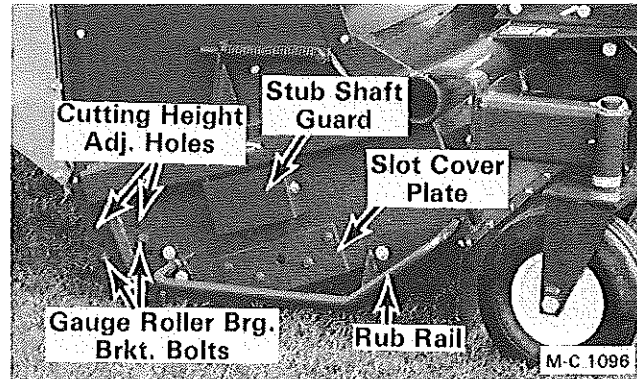

Figure 9
1. Install the right and left rub rails to the sides of the Model LG72B Lawn Genie body with  $\frac{3}{8}$ -16 x  $\frac{3}{4}$ " truss head screws, lockwashers and hex-nuts. Right rub rail is shown in Figure 9.